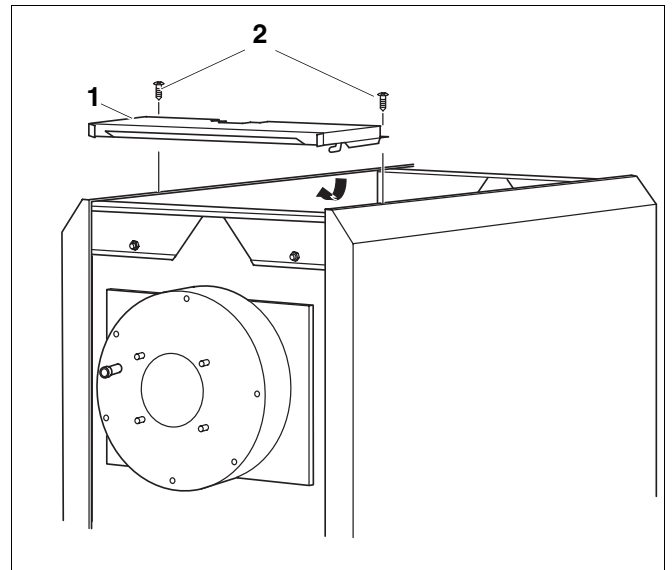

Fig. 16 Install the boiler front cover
- Position the front boiler cover (Fig. 16, **Item. 1**) on top of the side wall edge and pull forward, until the left and right hooks lock into the slots.
- Secure the front boiler cover by means of two self-tapping screws (Fig. 16, **Item. 2**), which should be inserted through the boiler cover brackets and the side wall edge into the horizontal bracket.